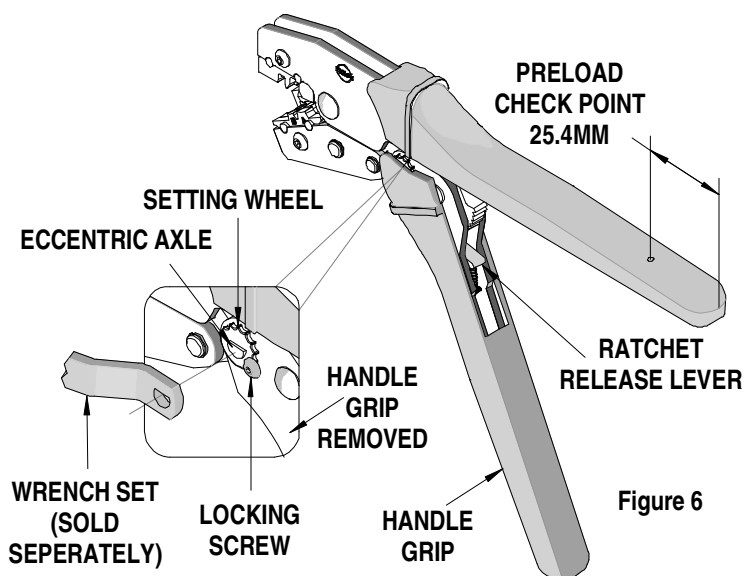

Figure 6
3. Make certain all pins; pivot points and bearing surfaces are protected with a thin coat of high quality machine oil. Do not oil excessively. The tool was engineered for durability but like any fine piece of equipment it needs cleaning and lubrication for a maximum service life of trouble free crimping. Light oil such as 30 weight automotive oil used at the oil points, every 5,000 crimps or 3 months, shown in Figure 6 will significantly enhance the tool life.
Should this tool ever become stuck or jammed in a partially closed position, **Do Not force the handles open or closed.** The tool will open easily by pressing the ratchet release lever. See Figure 6.
## How to Adjust Tool Preload (See Figure 6)